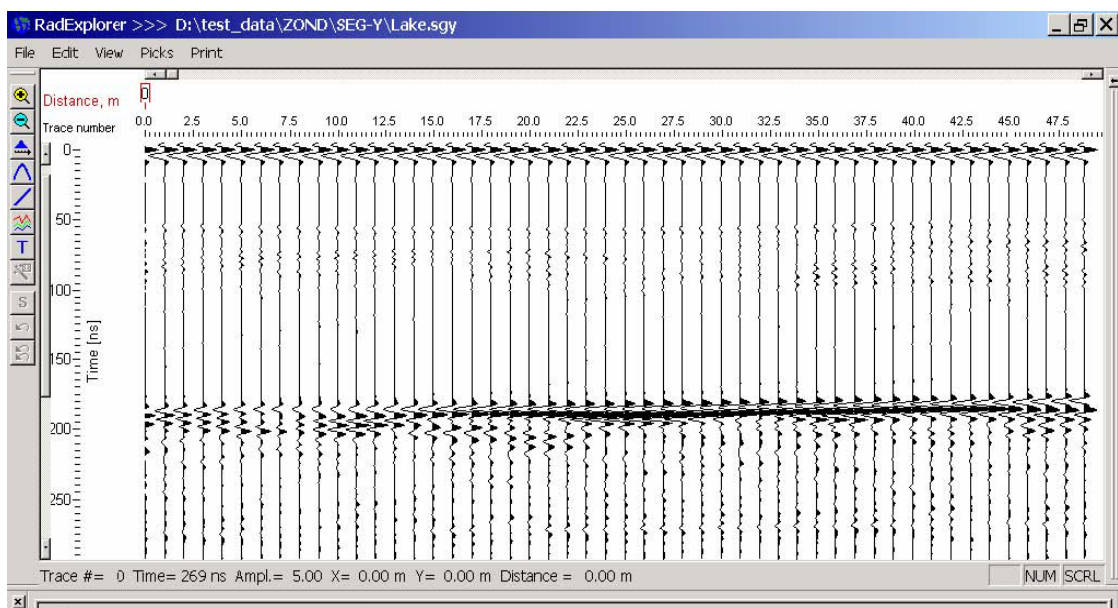

Fig. 5.4.2 – wiggle traces and variable amplitude
- “WT/VA” – wiggle traces and variable amplitude (see Fig. 5.4.2);